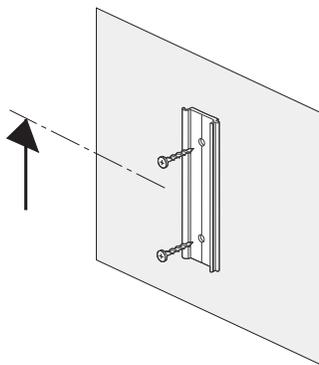

Fig. 2
2. Mount Attachment (CPMA) holes are predrilled. Determine sign mounting height from the project specifications and mark the location(s) on the wall as needed. Plumb level the CPMA and transfer the mounting holes to the wall. Install anchors and tighten. (see fig. 2)